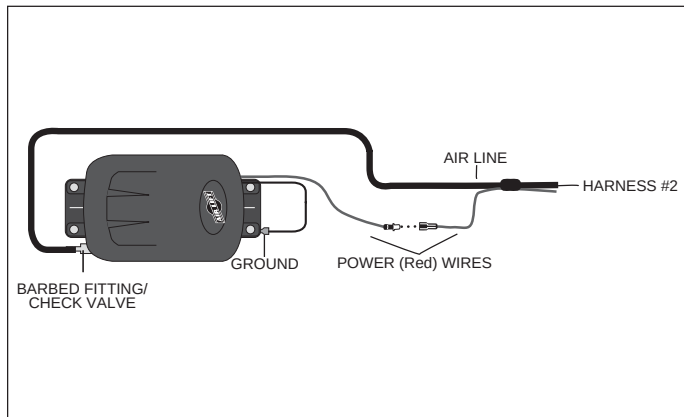
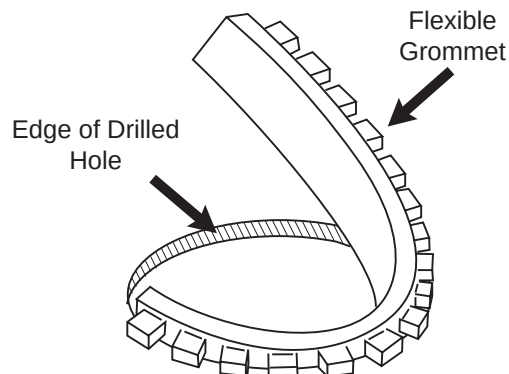

Figure 5
Figure 8
4. Attach Harness #2 to the Compressor unit. Push the air line completely over the barbed fitting on the compressor and connect the power wire (red) (Figure 5).
Route Wiring Harness #2 from the compressor. Use existing grommets in the floorboard or firewall to route the Harness from the compressor to the low pressure sensor. A hole may have to be drilled to allow access for the Harness. Drill a $\frac{5}{8}$ " diameter hole and install the provided grommet (Figure 8). It will be necessary to seal any grommets or holes that have been cut, drilled or removed so as not to allow elements to enter the cab area of the vehicle (Figure 5).